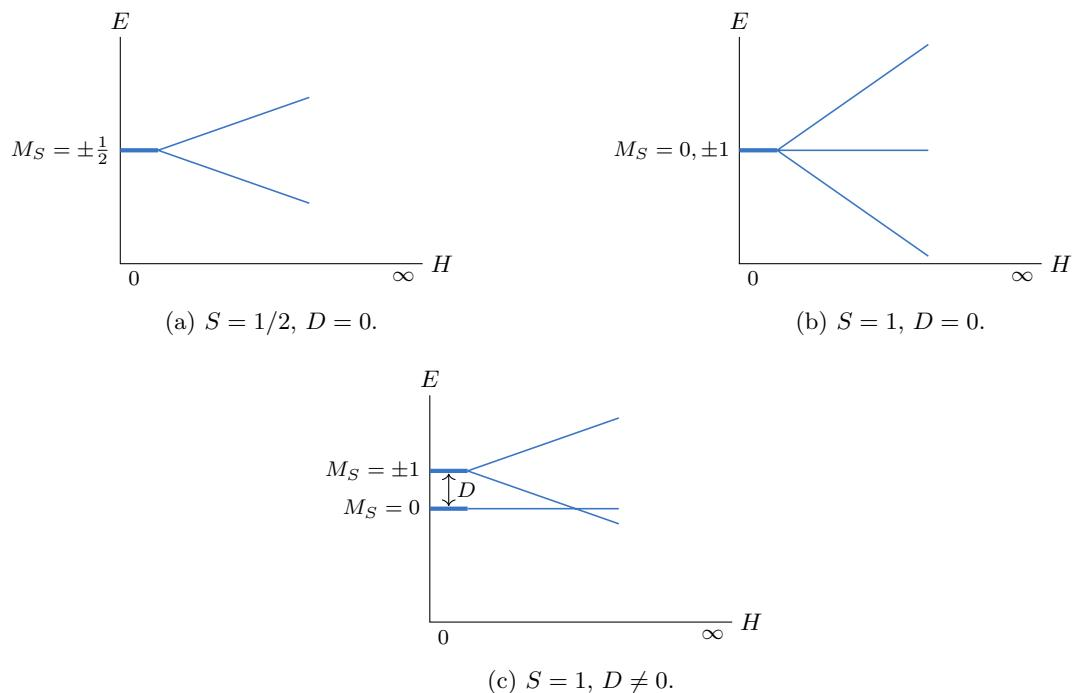

Figure 6.2: Zero field splitting.
– Look at graphs of energy as a function of applied magnetic field  $H$  (see Figure 6.2).